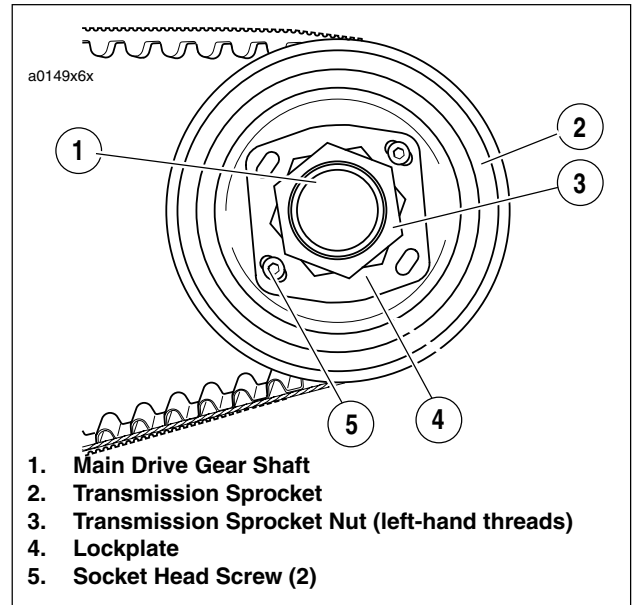
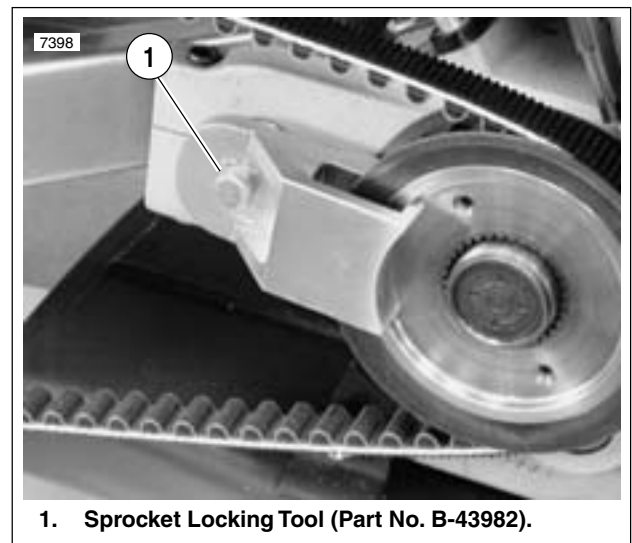

Figure 6-63. Transmission Sprocket
Figure 6-64. Sprocket Locking Tool
1. See Figure 6-63. Place transmission in first gear. Remove two socket head screws (5) and lockplate (4).
2. See Figure 6-63. Remove transmission sprocket nut (3) from main drive gear shaft (1).
- a. See Figure 6-64. Secure pulley using SPROCKET LOCKING TOOL (1) (Part No. B-43982).
1. See Figure 6-63. Install transmission sprocket (2) with secondary drive belt onto main drive gear shaft (1).
3. Apply a few drops of LOCTITE® thread locker 262 (red) to the **left-hand threads** of transmission sprocket nut (3). Position nut with washer-faced side facing transmission sprocket. Turn the nut **counterclockwise** to install it onto main drive gear shaft.
- a. See Figure 6-64. Install SPROCKET HOLDING TOOL (1) (Part No. B-43982) as shown.
- e. See Figure 6-63. Install lockplate over nut so that two of lockplate's four drilled holes (diagonally opposite) align with sprocket's two tapped holes.
5. See Figure 6-63. Install two socket head screws through aligned holes of lockplate and into tapped holes of sprocket. Tighten to 90-110 **in-lbs** (10-12 Nm).